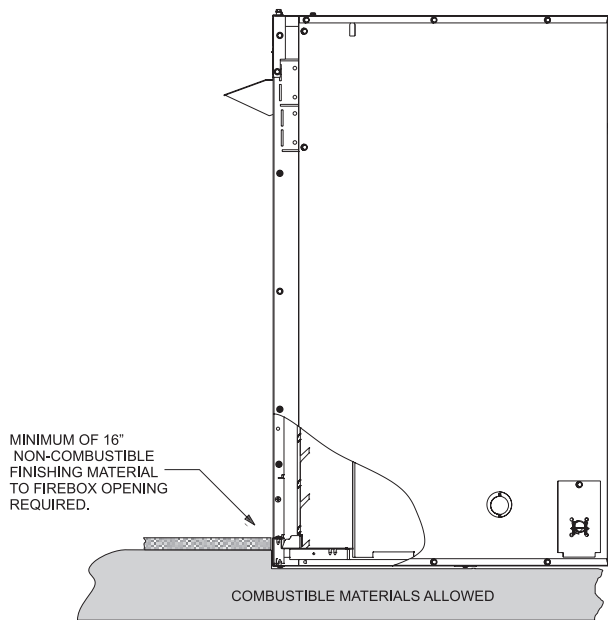

Figure 5
3. Recessed into the floor as illustrated by **Figure 5**.